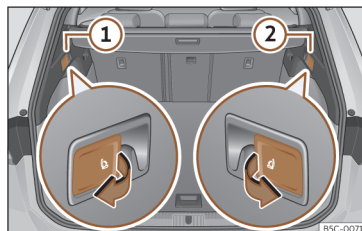

Fig. 113 In the luggage compartment: levers to unlock the rear backrest.
- Pull the remote release lever of the left part»» Fig. 113 ① or right part ② of the backrest in the direction of the arrow. The released part of the rear seat backrest is folded automatically down and forwards.